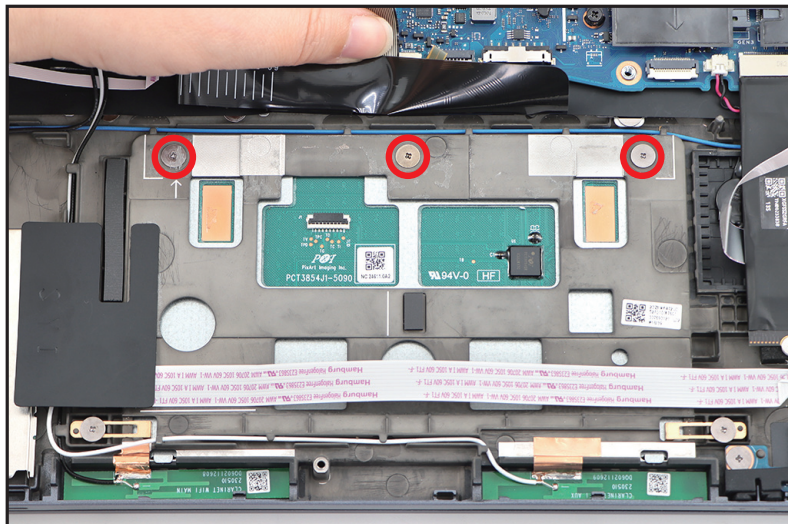

Figure 1-42. Touchpad Module Removal
6. Remove three (3) screws securing the touchpad module (Figure 1-42).